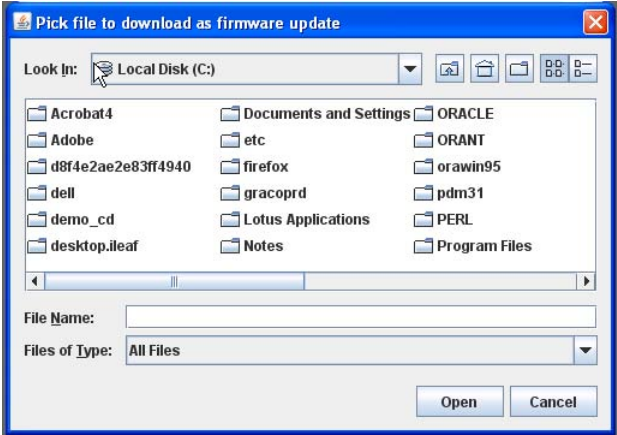

FIG. 12: Install EasyKey Software
**Install EasyKey software** - installs firmware for the current device (approximately 6 minutes). See FIG. 12.